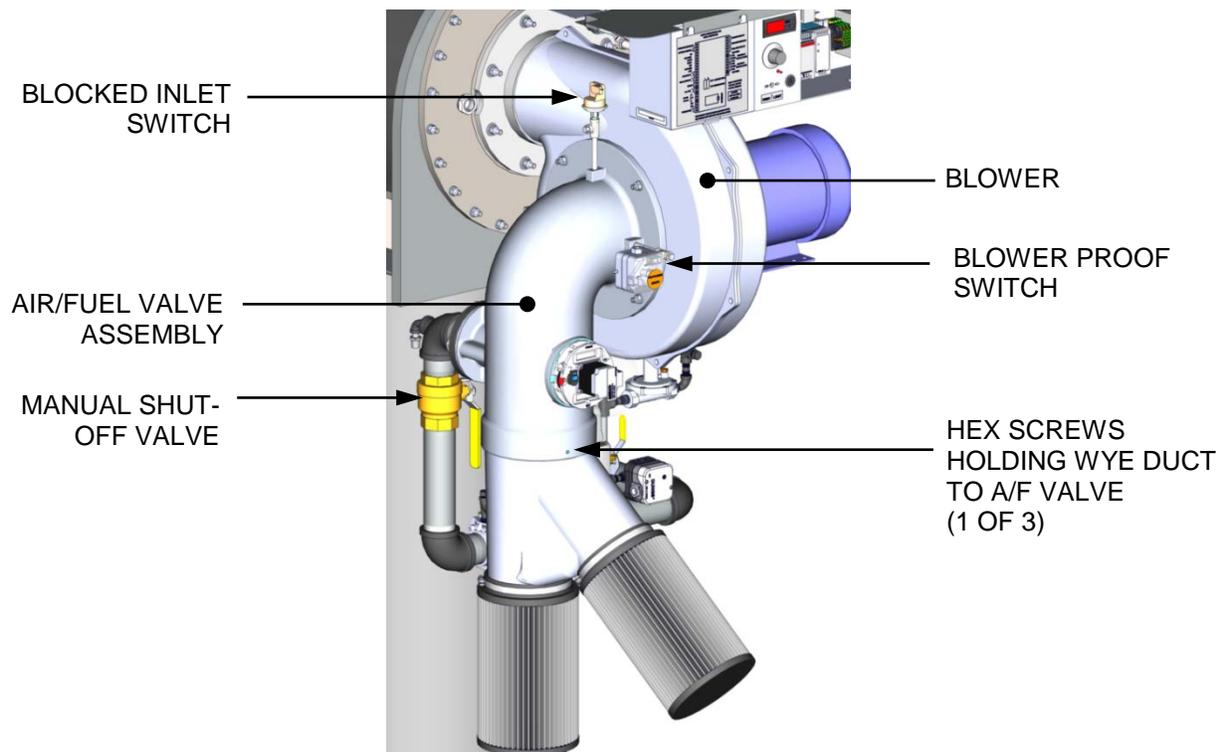

Figure 6-5: Blower Proof Switch & Blocked Inlet Switch Locations
These tests check the operation of the Blower Proof Switch and Blocked Inlet Switch shown in Figure 6-5.
2. Remove the three (3) hex head screws securing the WYE-Duct and air filters to the Air/Fuel valve (see Figure 6-5, above) and carefully remove the WYE-Duct and air filter assembly.